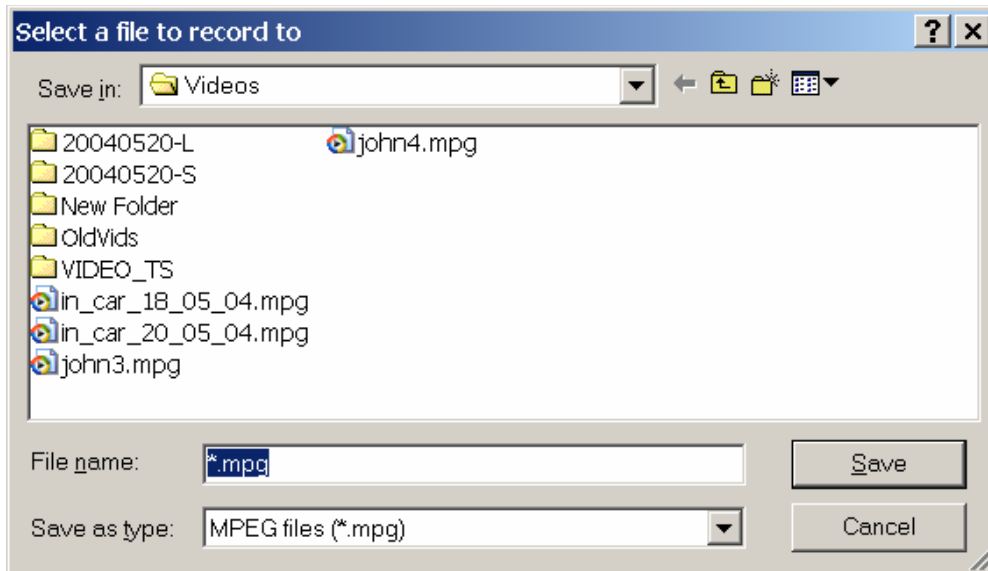

Figure 13 Record File
- Record to file. This option gives the user an option of recording the file that is being decoded to disk. The user is prompted with a Windows standard "File Save" dialogue box. When recording is active, this menu option is changed to "Stop Recording" which can be used to stop writing to disk. See Figure 13.